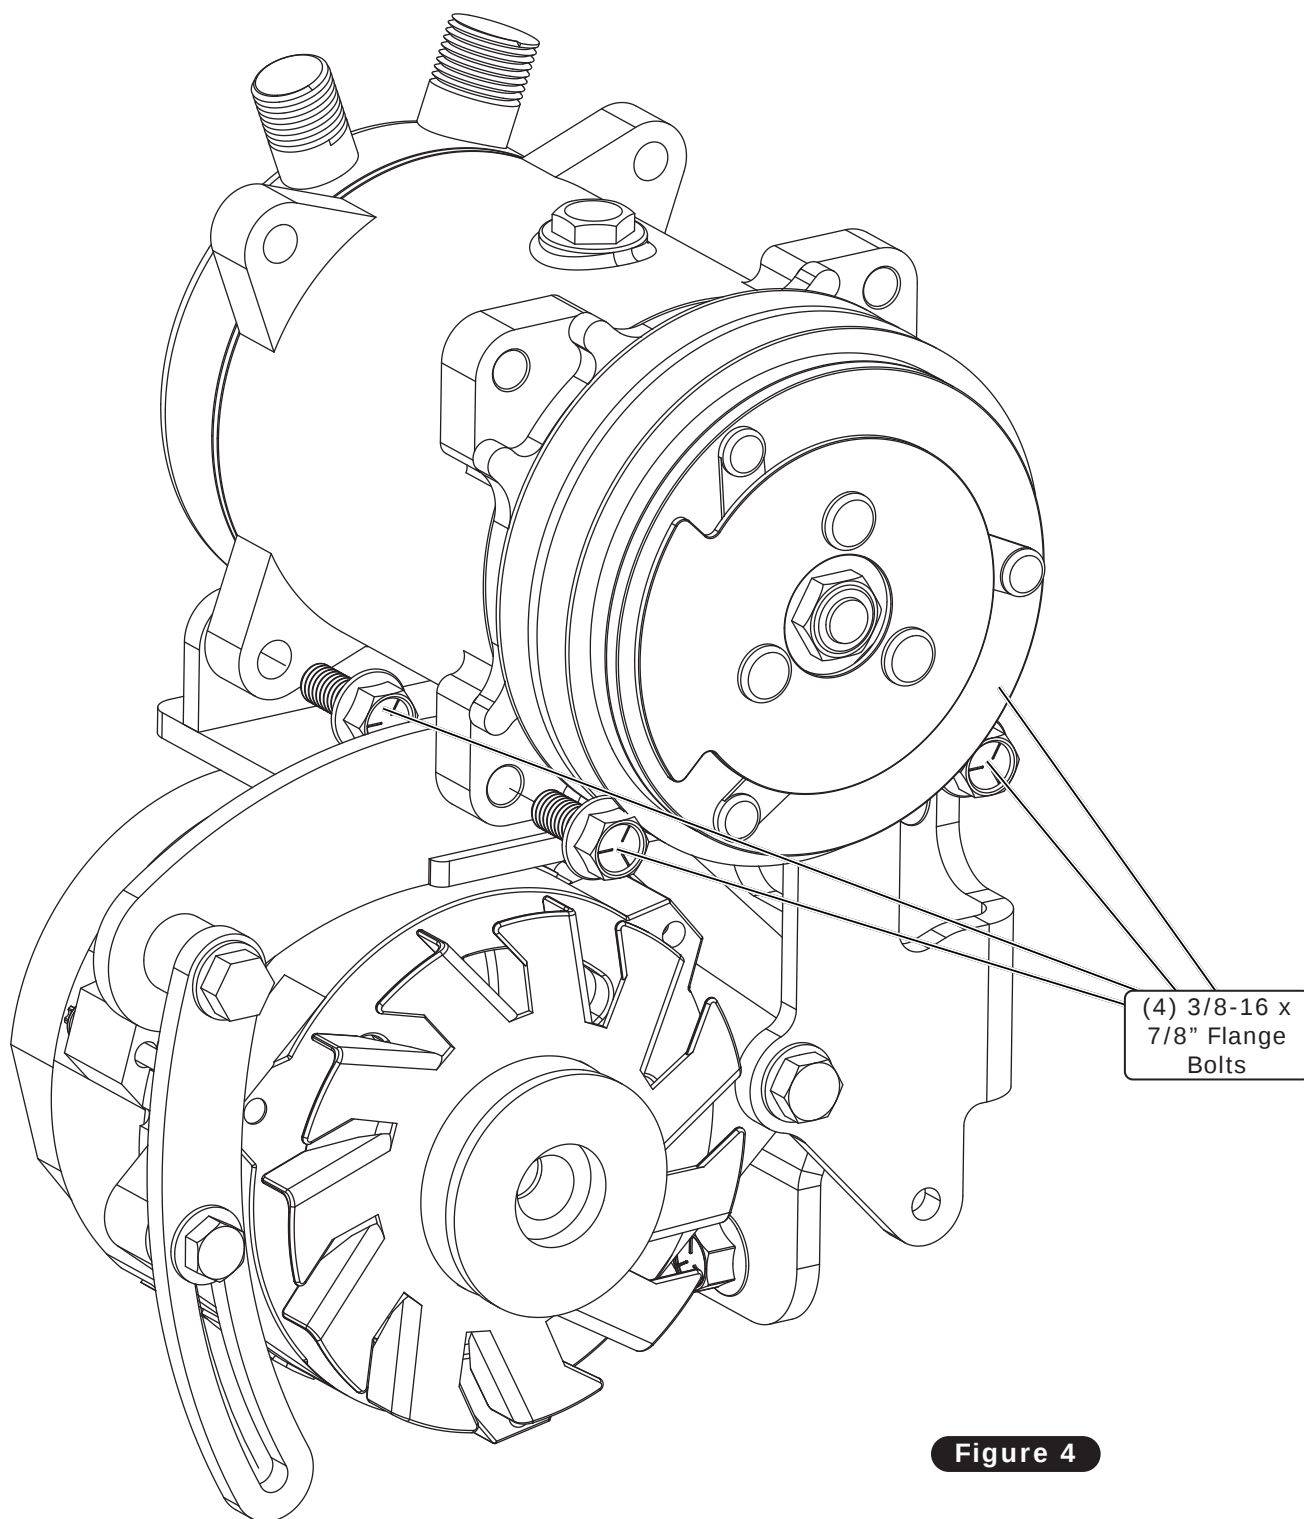

Figure 4
5. Install the compressor onto the assembly and secure using (4) 3/8-16 x 7/8" flange bolts into the threaded ports on the assembly ears (See Figure 4, below).